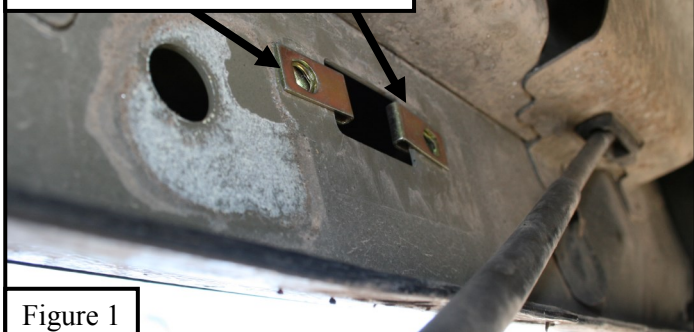

Figure 1
2. Starting on the drivers side rocker panel, locate a piece of black tape. Remove the tape to reveal a rectangle hole. Take (2) M8 extruded u-nuts (Item 7) and place them over the two round holes located vertically into the rocker panel. See **Figure 1**.